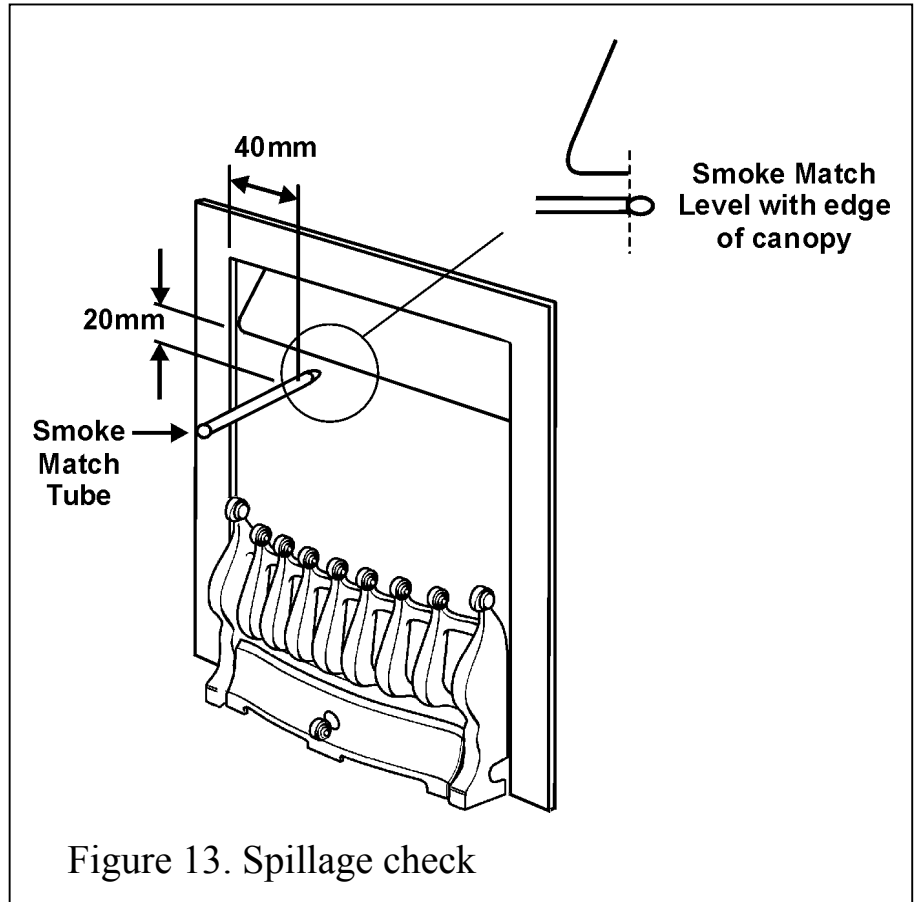

Figure 13. Spillage check
- A spillage check must be made before leaving the installed appliance with the customer. Make this with all the ceramic fuel effect pieces and firefronts / castings in position. (See figure 13)